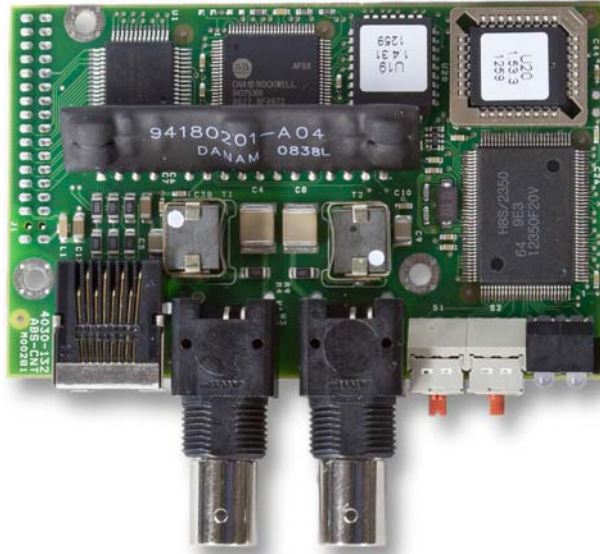
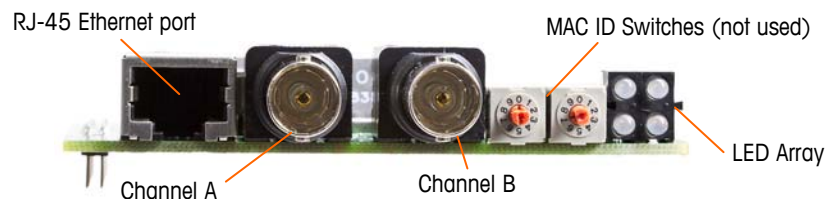

Figure 2-66: ControlNet PLC Module
Figure 2-67: ControlNet PLC Module Connections and Components
The ControlNet PLC Module (Figure 2-66, Figure 2-67) connects to the ControlNet network via a tap and drop cable from the original trunk cable. The option supports one connection or two (for redundancy). Channel A is the normal connection and Channel B (redundant with Channel A) can be used if ControlNet detects no signal on Channel A. Note that the module's address is set in software, and the MAC ID switches indicated in Figure 2-67 are not used.
- Do **not** plug an Ethernet cable into the RJ-45 connector shown at left in Figure 2-67. This connection is not used.